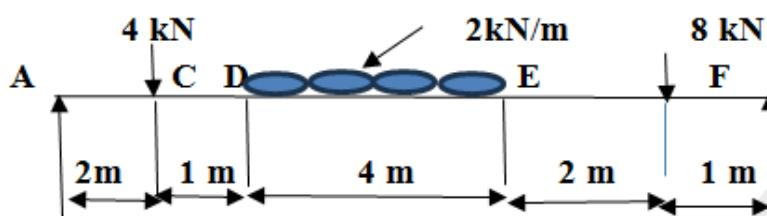

Figure 3a
- 3 a) Draw the SFD and BMD of the Simply Supported Beam loaded as shown in the figure 3a.